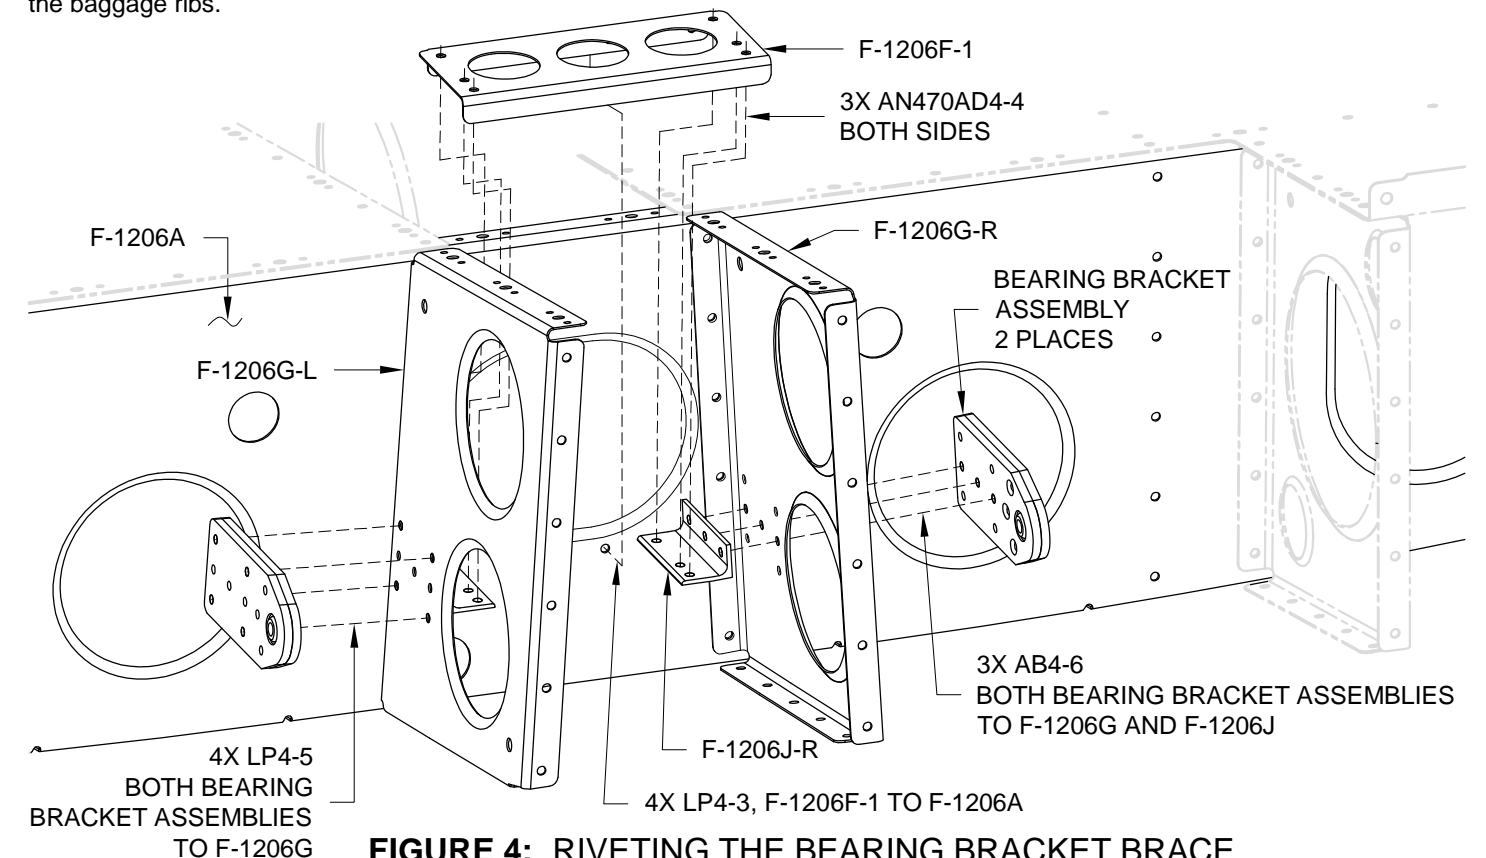

FIGURE 4: RIVETING THE BEARING BRACKET BRACE
Step 8: Rivet the F-1206F-1 Bearing Bracket Brace to the F-1206J Angles and then to the F-1206A Bulkhead using the rivets called out in Figure 4.
Step 9: Rivet the Bearing Bracket Assemblies to the F-1206G Baggage Ribs and to the F-1206J Angles using the rivets called out in Figure 4. The flush, manufactured heads of the rivets in the Bearing Bracket Assemblies are placed against the web of the baggage ribs.